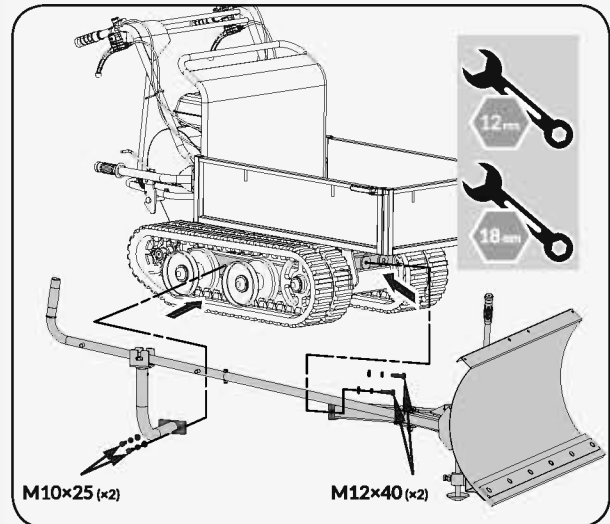

Figure 8e
- Install the already assembled plow blade to the trackbarrow as shown. (See **Figure 8e**)